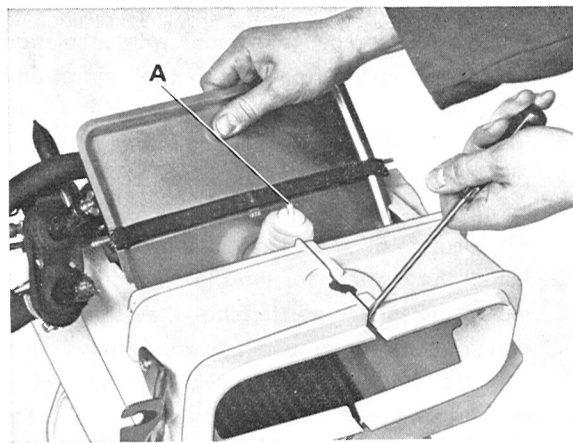

Fig. 8-85. Installing air intake cover with vacuum motor.
3. Remove the clamps on both sides nearest to the air intake (2).
7. Place the air shutter with vacuum motor and spring in position on the central unit (Fig. 8-85).